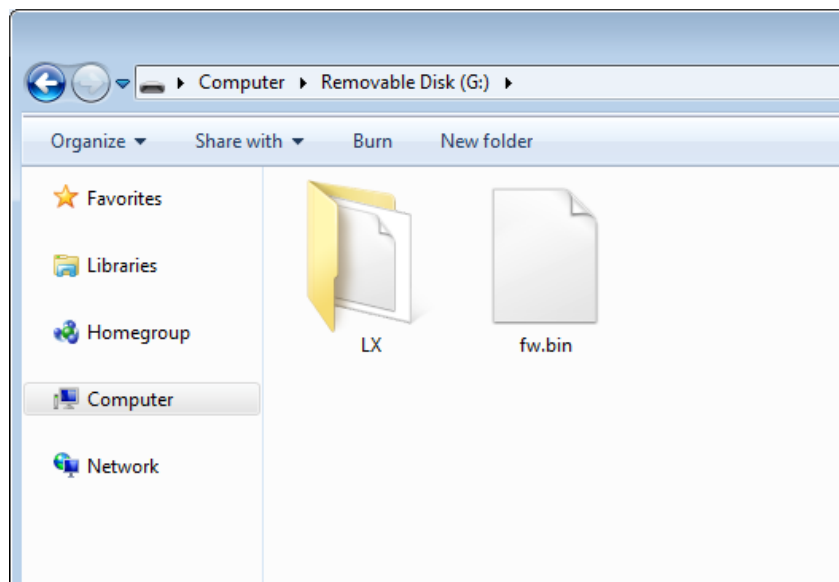

Figure 2.
- 2.) Rename **LX Flarm Colour Display II v2_1.bin** file to **fw.bin** (figure 2.)